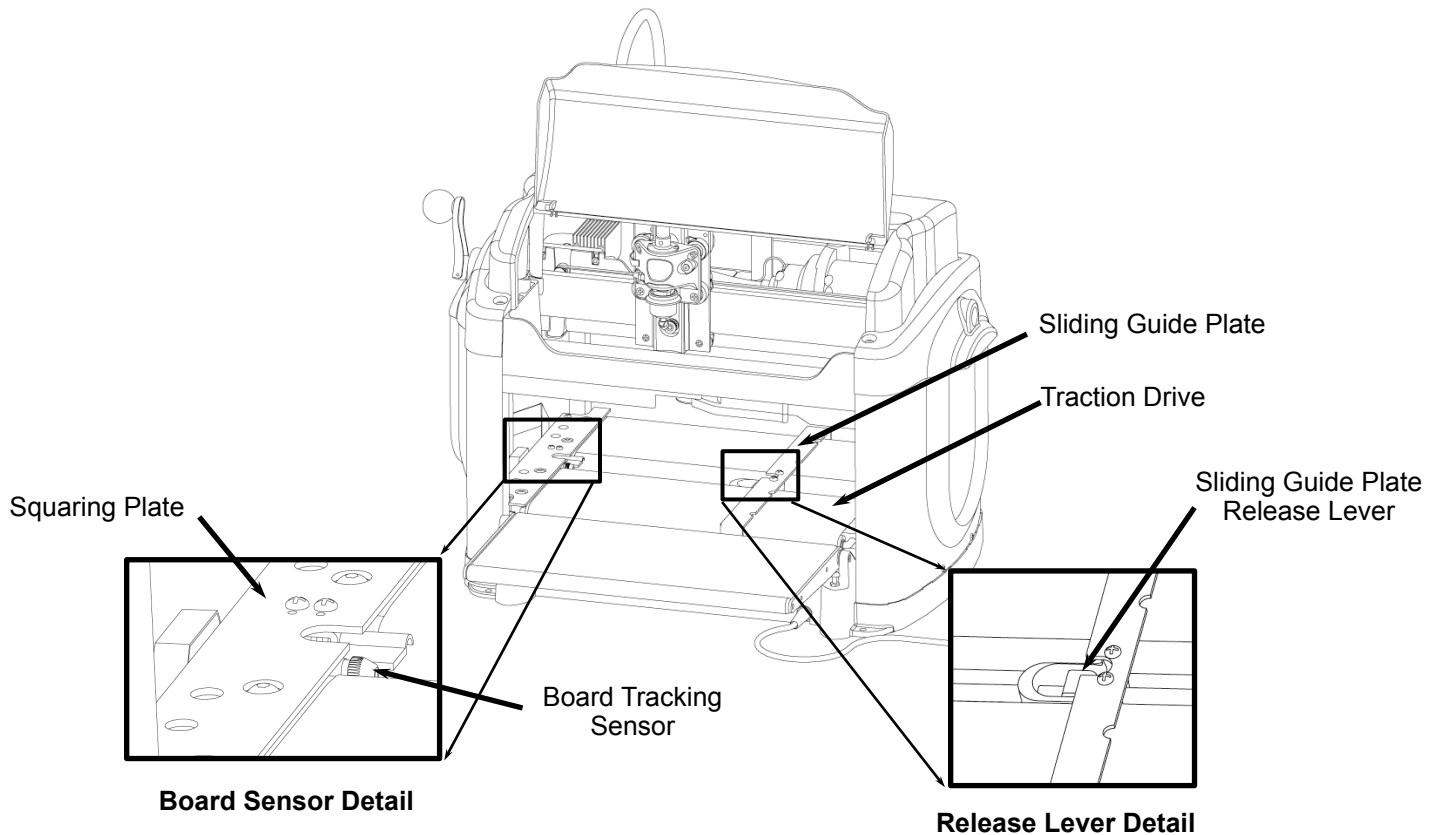

FIGURE 17: WORKPIECE
2. Check the bottom of the workpiece for features that will make it unusable in the machine. The bottom surface of the workpiece where it contacts the squaring plate must be flat and level for a width of at least 3/8ths inches along the bottom edge to allow the Board Tracking Sensor to accurately calculate the position of the workpiece at all times (see Figure 17). If a workpiece does not have the required surface available for the sensor to follow (e.g., if it is already carved on the back), it will be necessary to fasten the workpiece to a sled or carrier jig to do further work on it. If a workpiece is slightly cupped or bowed, the workpiece should be inserted with the cup or bow facing down.